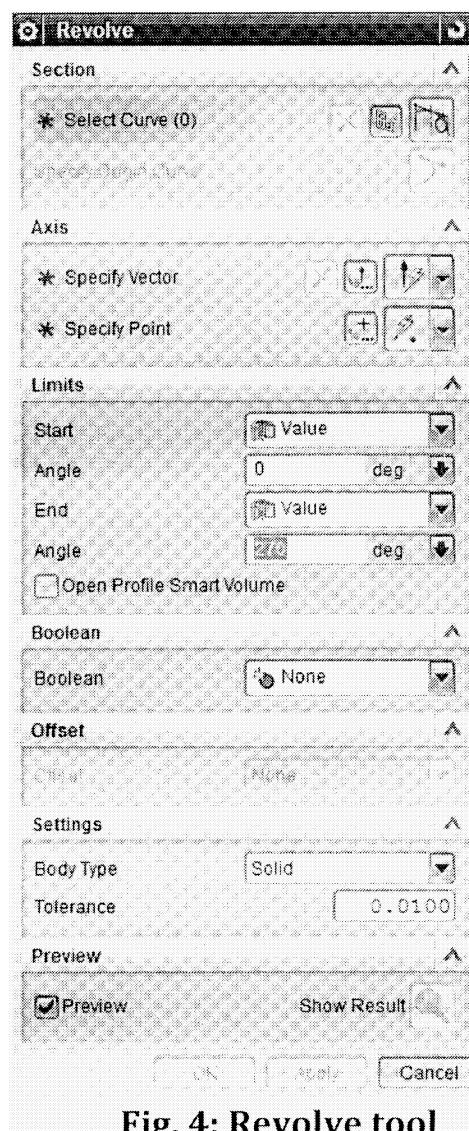

Fig. 4: Revolve tool
(1) Consider the Fig. 4 and explain “Revolve” tool. 7